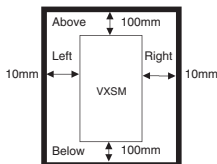

Fig. 2-2-1
- (1) Securely mount the inverter in the upright position on a rigid structure so that the "VXSM" characters face front. Avoid mounting the inverter upside down or avoid mounting horizontally.
- (2) Allow clearances for cooling air shown in Fig. 2-2-1 to cool down the inverter which generates heat during operation. The generated heat is radiated upward. Do not install the inverter below a heat sensitive device.